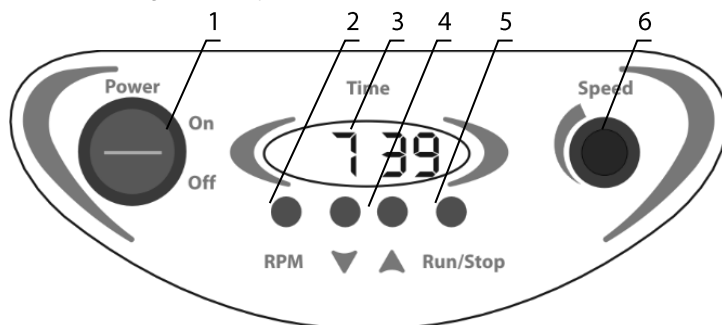

Figure 1. Control panel
- 5.3. Turn the **Power** switch (fig. 1/1) into **On** position, located on the front panel of Shaker (the display, fig.1/3, lights on). In standby mode, the display shows set time or set speed (when **RPM** key is pressed). In run mode, the display shows operation time or actual speed (when **RPM** key is pressed).
- 5.4. Using the ▼ and ▲ keys (fig. 1/4) set the operation time using the display readings. The set time is indicated on the display in hours and minutes (hh:mm).
- 5.5. Set the shaking speed with the Speed knob (fig. 1/6) using set speed readouts on the display. Speed readouts are indicated on the display while the Speed knob is being turned.
- 5.6. Press the **Run/Stop** key (fig. 1/2). The platform will start shaking and the timer will start counting the operation time.
- 5.8. The shaker can be stopped before the set time elapses if necessary by pressing the **Run/Stop** key (fig. 1/5). For 2 s the display will be showing the time the shaker has worked, and after that the set time.